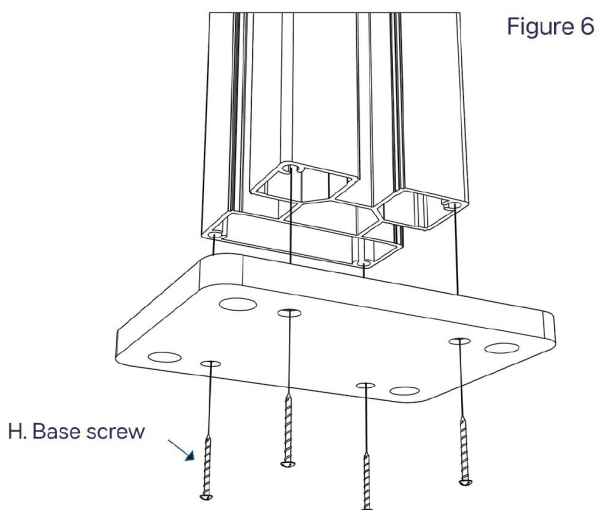

Figure 6
- 6.** Combine the post and post base using the base fixing screws as illustrated in Figure 6.